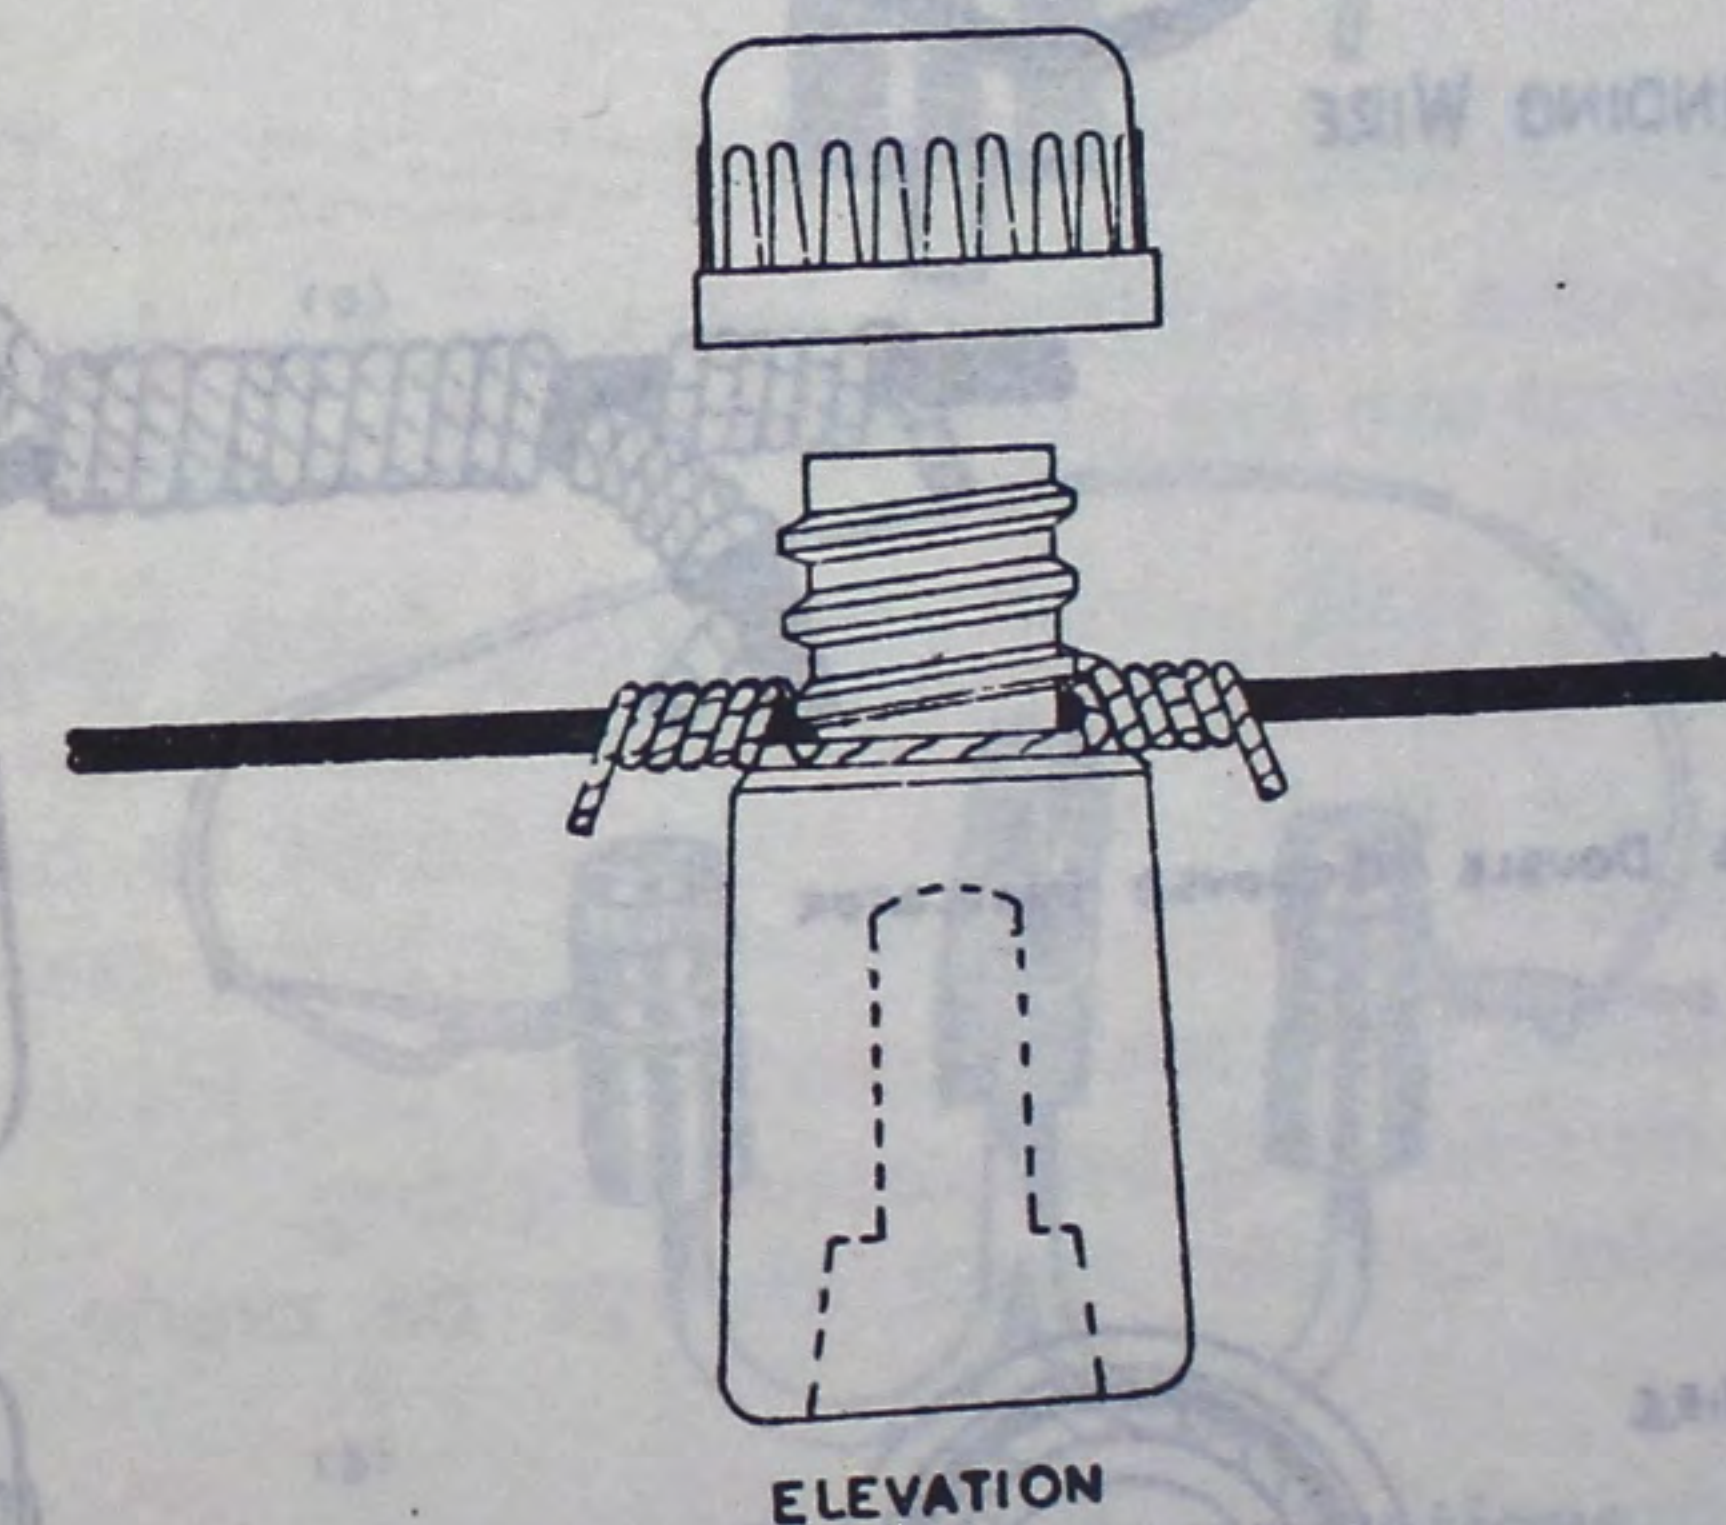
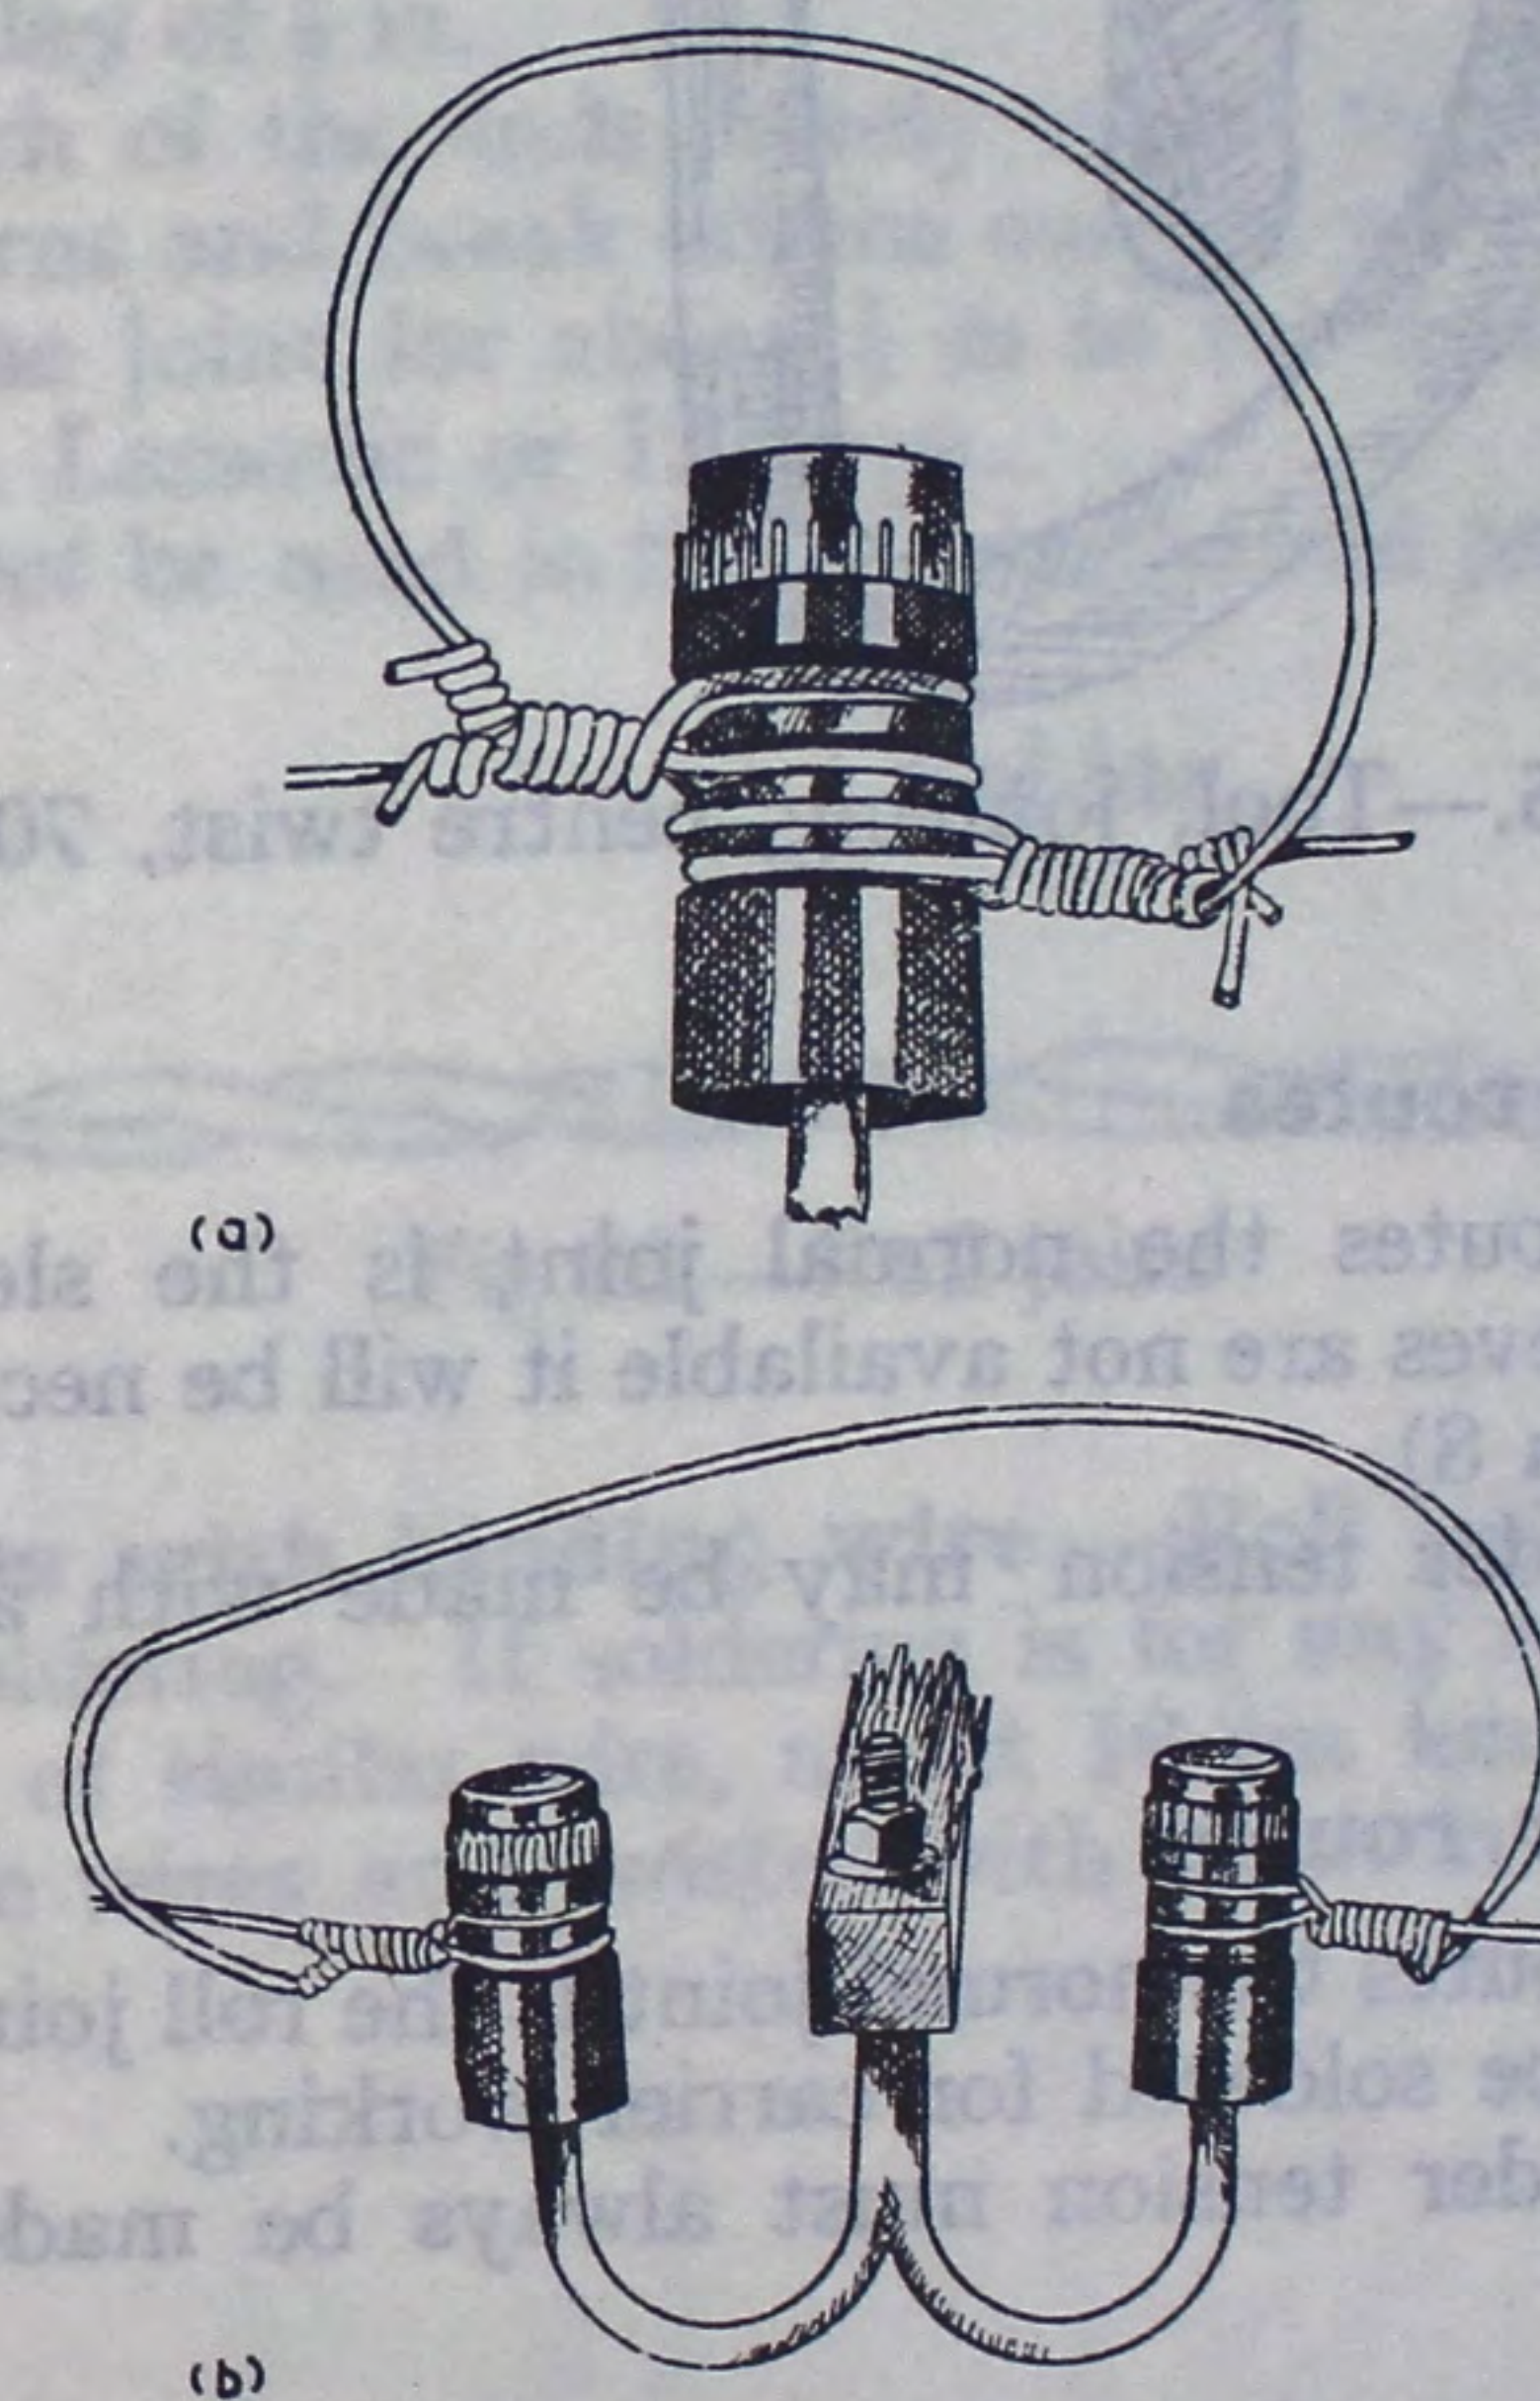

Fig 22.—Binding-in
Fig 24.—Double terminations
Binding-in is illustrated at Fig 22.
6. A double termination (see Fig 24 (a)) is made in the same way as a single termination. The line wire from the left is laid in the top groove of the insulator; the line wire continuing to the right is laid in the bottom groove, with its binder just above it, on the body of the insulator.
7. The method of terminating on the old type of insulator, *Field, cup, Mark 4**, which has no grooves on the body, is illustrated in Fig 22 (b). On such insulators it is, of course, impossible to double terminate on a single insulator, and two insulators, mounted on each side of a double-J spindle, must be used (see Fig 24 (b)).